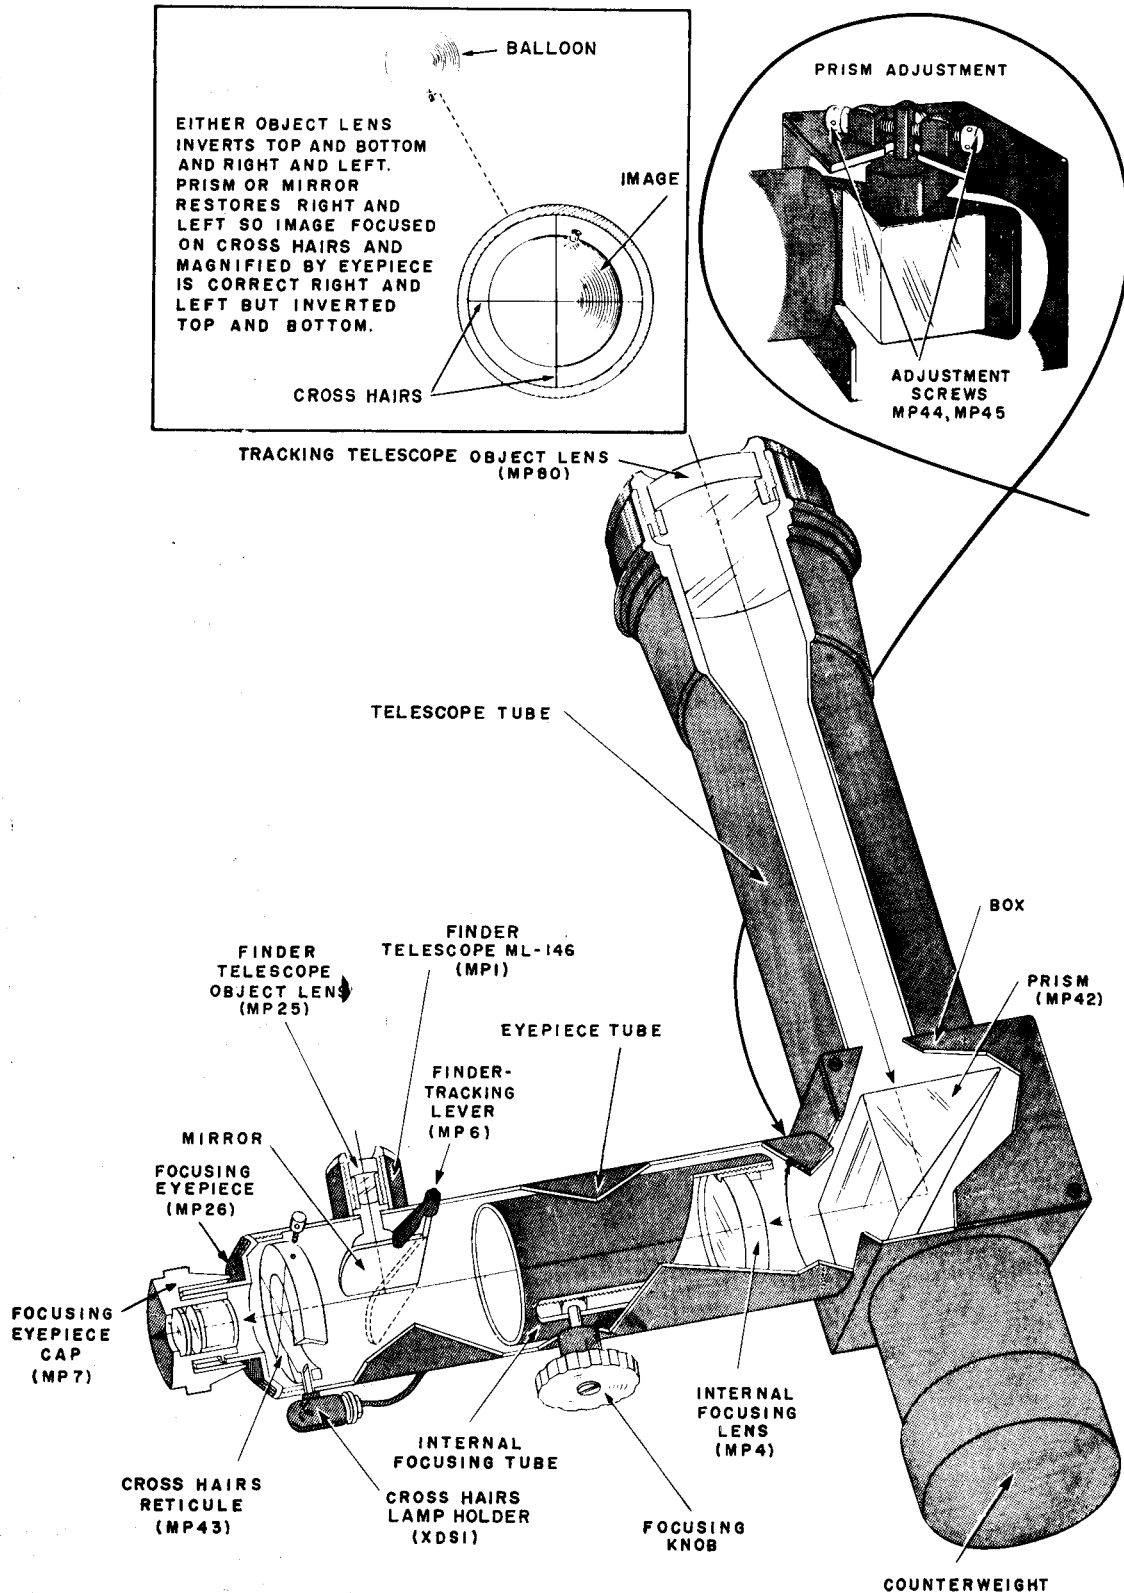

Figure 1. Optical systems of theodolite.
The theodolite has three optical systems; the tracking telescope (fig. 1) (a below), the finder telescope (fig. 1) (b below), and the sights (fig. 3) (c below).
a. *Tracking Telescope* (fig. 1). The tracking telescope provides a high power, narrow field of view (approx 2°) for accurate balloon tracking.
- (1) *Tracking telescope object lens*. When the theodolite is used to follow a balloon, light rays from the balloon are collected by the plano-convex object lens (MP80). The lens causes the rays to converge. They then pass along the telescope tube to the prism (MP42) which bends the rays 90° into the eyepiece tube.
- (2) *Internal focusing lens*. In the eyepiece tube, the rays pass through the internal plano-concave focusing lens (MP4). This lens causes the rays to converge less sharply and because of the decrease in the angle of the rays a larger image (approximately 22 power) is produced. The internal focusing tube containing the internal focusing lens can be moved back and forth within the eyepiece tube by a rack and pinion, controlled by the focusing knob.
- (3) *Focusing eyepiece*. Adjustment of the position of the internal focusing lens (MP4) brings the image formed
- (4) *Cross hairs*. The cross hairs intersect at a point coincident with the optical axis to precisely center the telescope on any visible point.
b. *Finder Telescope* (fig. 1). The finder telescope provides a low power, wide field of view and may be adjusted so that an object centered in its field of view will be centered in the field of view of the tracking telescope. The finder telescope consists of the following parts:
- (1) *Finder telescope object lens*. The finder telescope object lens (MP25) accepts light rays and bends and projects these light rays in accordance with the curvature of the lens surfaces to form a slightly enlarged image (approx four power) with a wide field of view (approx 10°) at the eyepiece end of the telescope.
- (2) *Mirror*. The light rays from the finder telescope object lens are reflected 90° by the mirror, making the finder telescope function as a right-angle telescope. The light rays converge to a point of sharp focus at the plane of the cross hairs.
- (3) *Focusing eyepiece*. The focusing eyepiece functions as described in a(4) above, except that when the finder telescope is used, the focusing eyepiece controls the light rays that come from the mirror.
- (4) *Cross hairs*. The cross hairs function the same as those described in a(4) above.
The cross hairs (fig. 1) of the theodolite are very fragile and break easily. Broken cross hairs must be replaced before the theodolite can be used for accurate observations.
b. To remove the cross hairs lampholder (XDS1) (fig. 3), unscrew the bracket screws and slide the lampholder out of the cross hairs lamp hole in the reticule (fig. 1).